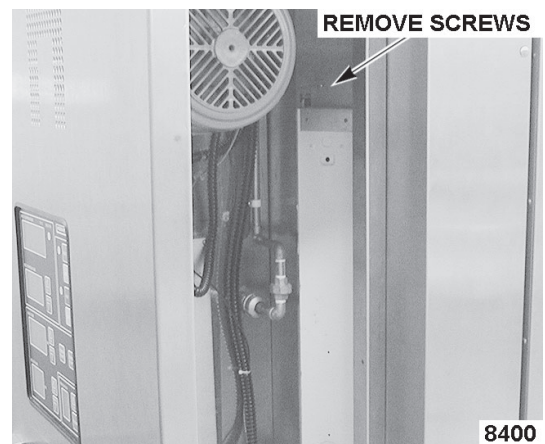

Fig. 5
- A. Remove screws (Fig. 5) securing oven lamp housing to the oven.